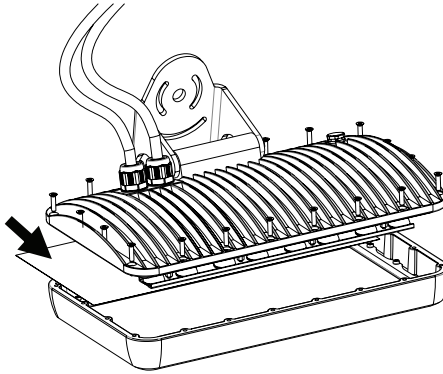

Figure 37: Remove the screws
2. Remove the screws from the fixture housing to release the front cover (See Figure 37).
3. Remove the old diffuser filter (if fitted) and install the new diffuser (arrowed in Figure 37) by putting it into the front cover with its *mat side facing in towards the LEDs* and its *shiny side facing out towards the front*.